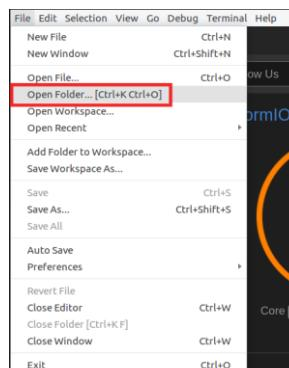

Figure 102. Open Folder
4. On the top menu bar, click on *File* → *Open Folder* (see Figure 102) and browse into directory *[RVfpgaBasysPath]/examples/examples_PlatformIO*